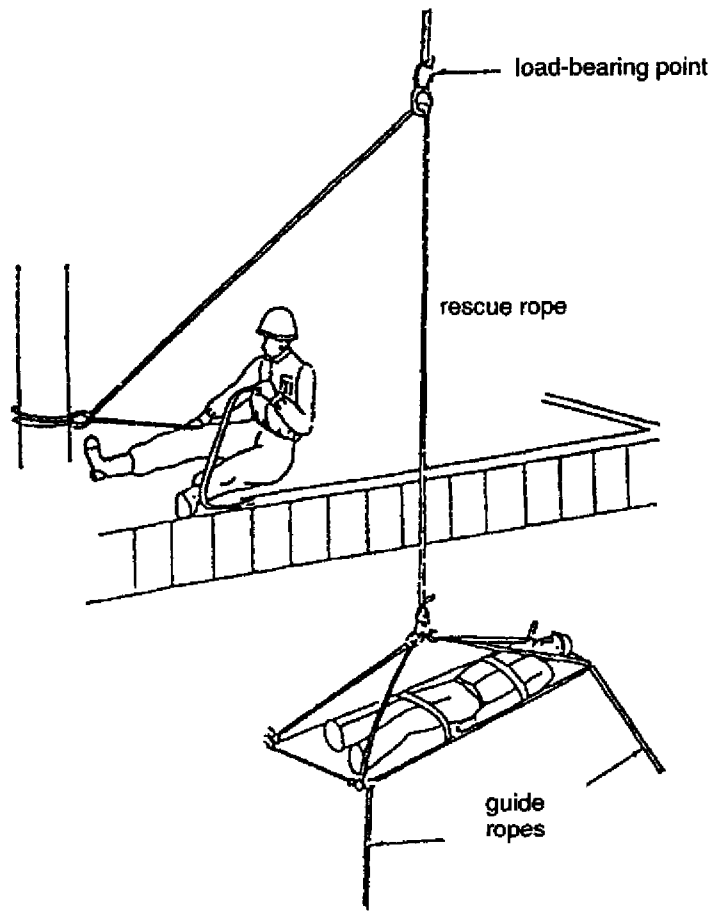

Fig. 7-8
- d. Manipulate the guide ropes in coordination with the lowering of the stretcher to create enough of a gap so that the stretcher does not scrape against the wall. (Fig. 7-8)
(5) Cautions